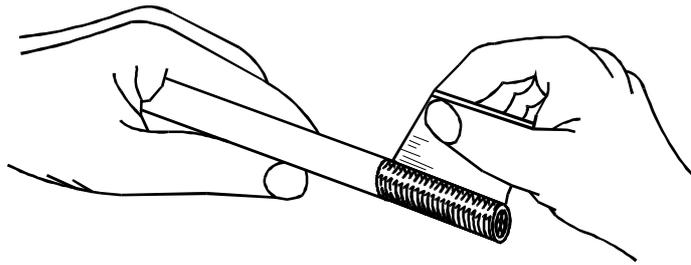

*Figure 1-8*
4. The first cut is to remove the desired length of the outer jacket. After placing the cable on a solid surface, position the knife blade at the desired strip point and press gently, using sufficient pressure to score the jacket without damaging the inner shielding. Figure 1-8 illustrates this process.